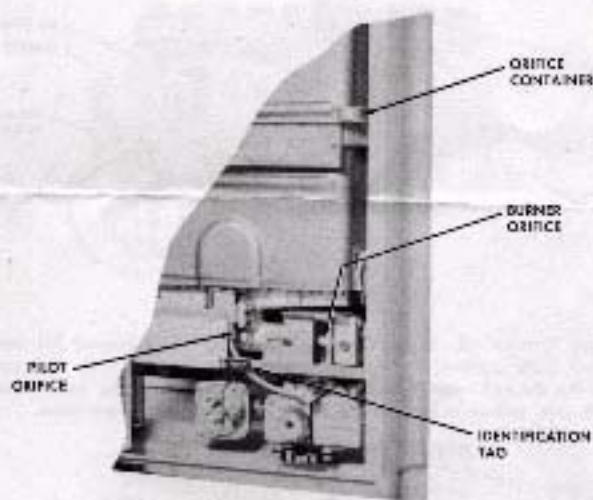

Fig. 5
7. Store Natural Gas orifices and identification tag in orifice container. (Fig. 5)